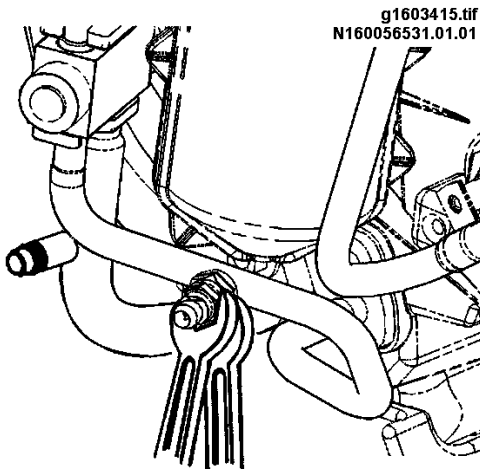

Figure 15 Use a Back-Up Wrench When Loosening or Tightening Fittings
- H. Whenever possible use a backup wrench when loosening or tightening fittings (Figure 15).